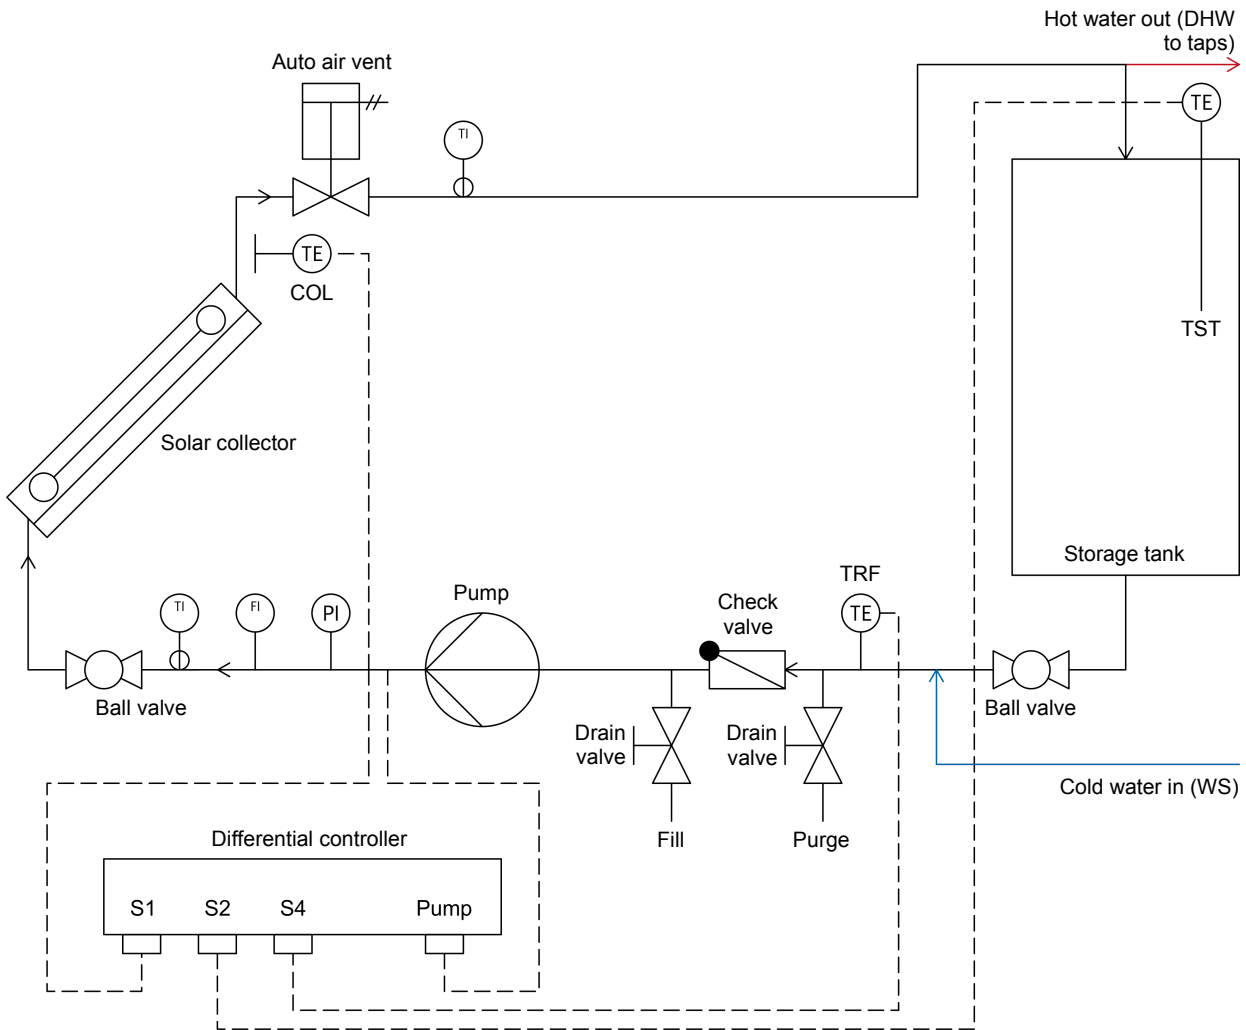
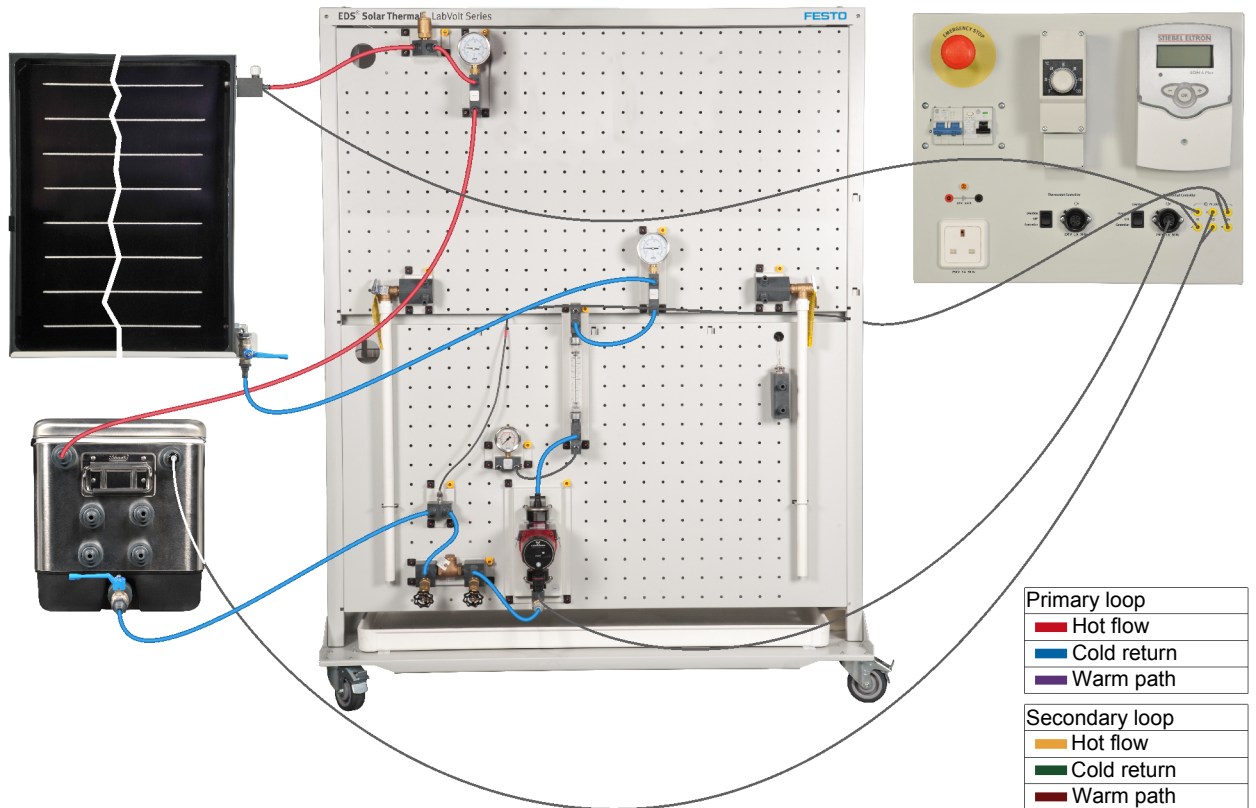

Figure 4. Open-loop, flooded/recirculation system schematic.
Figure 5. Open-loop, flooded/recirculation system configuration.
1. Figure 4 shows a direct solar heating system with thermal storage.
2. Ensure that the following parts are mounted on the mobile workstation as shown in Figure 5.
- Thermometers (2)
5. Connect the necessary hoses as shown in Figure 4 and Figure 5.